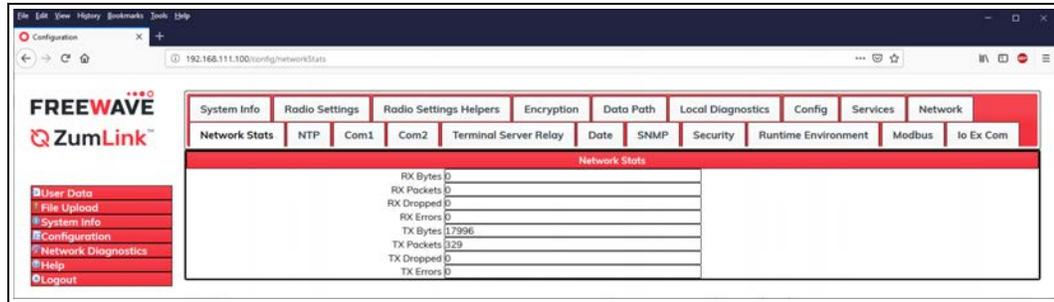

Figure 278: Network Stats window
6. Click the **Network Stats** tab to access the **Network Stats** parameters. Figure 278